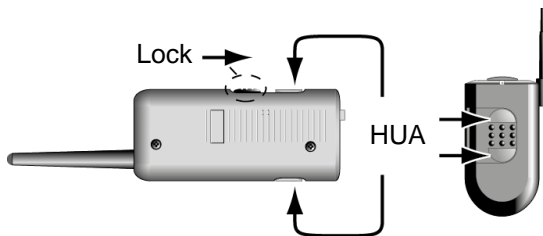

Figure 3. Radio HUA operation
A radio HUA (Figure 3) is a two-button transmitter used to start a Hold Up Alarm (HUA), otherwise known as Panic Alarm or Personal Attack (PA).